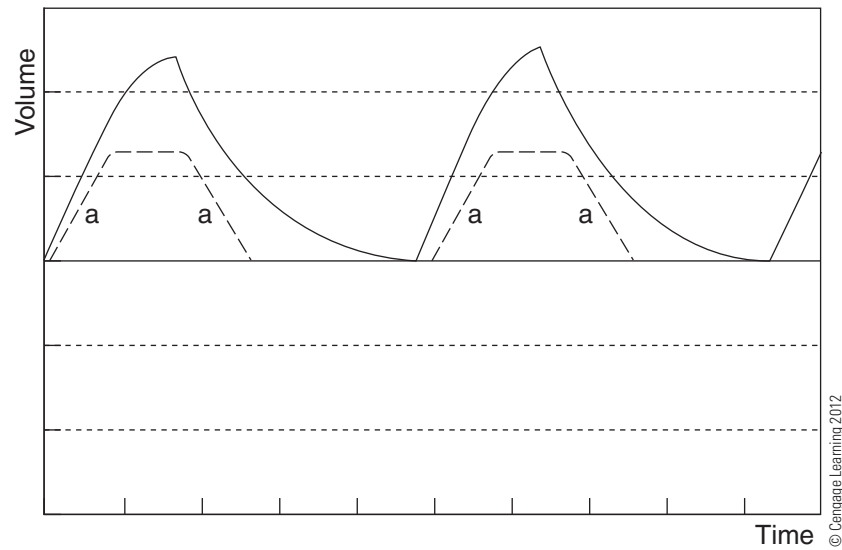

Figure 3-8 Decreased Compliance
- Figure 3-8** Decreased Compliance
(3) Pressure-Time Waveforms - Constant Flow